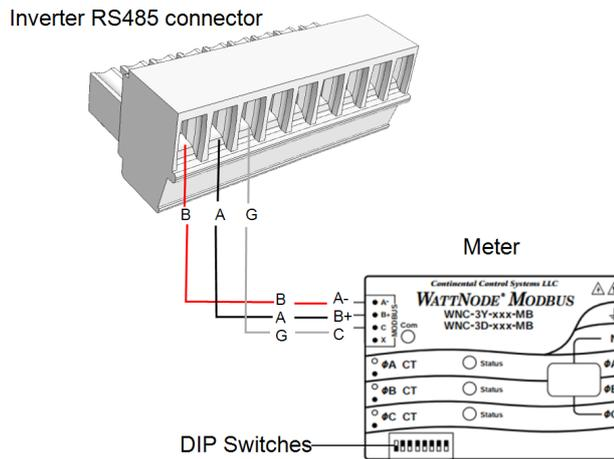

Figure 8: WattNode meter connection to the inverter RS485 connector
2. Check that the electricity meter Modbus address is set to 1 and the Baud Rate is set to 9600 bps: DIP switch 1 (left switch) is set to 1 and all other DIP switches are set to 0 – as shown in *Figure 8*.